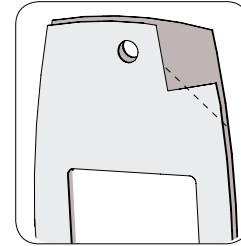

Fig. 9A
1. Carefully remove the backing from the gasket (Fig. 9A).